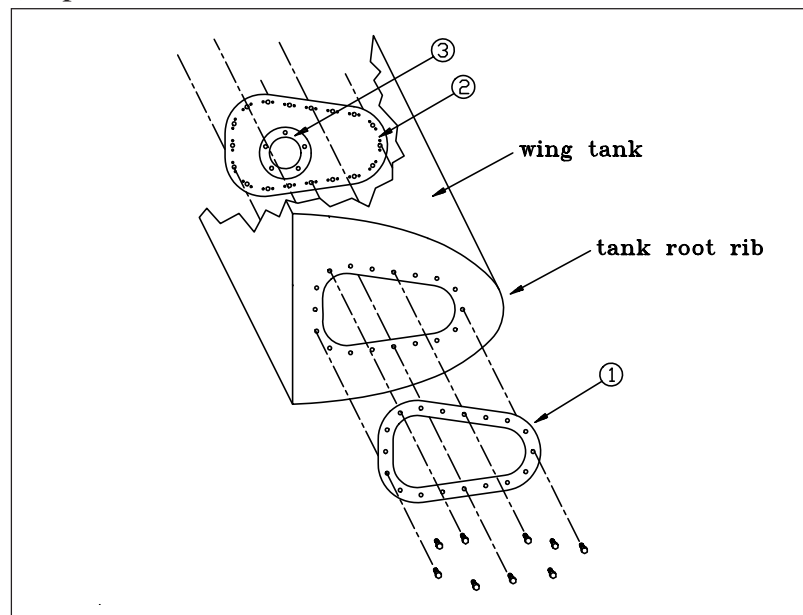

Figure 6 Inspection Door Removal/Installation
- 9 Apply a cohesive film of Scotch Clad 776 through the inspection hole of the tank root rib (Figure 6) by using the spray gun.